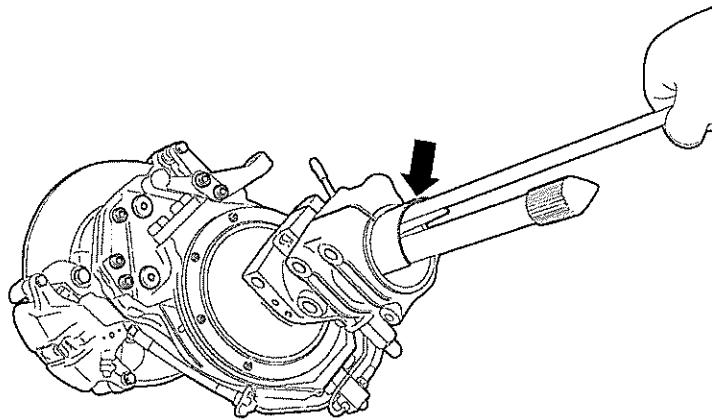

Fig 13 Cleaning portal hub inner bore
- 7.6 Push clean rag deep into half axle to stop ingress of dirt and cover chrome surface of swivel housing. Use abrasive cloth to clean residual Loctite from inside axle casing. Remove rag and degrease cleaned surface (see Fig 13).